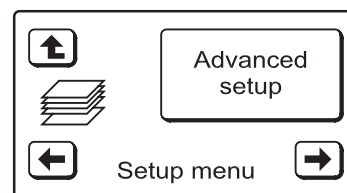

FIG. 25
2. Press the **LEFT (←)** button twice to display the screen shown in Figure 25.